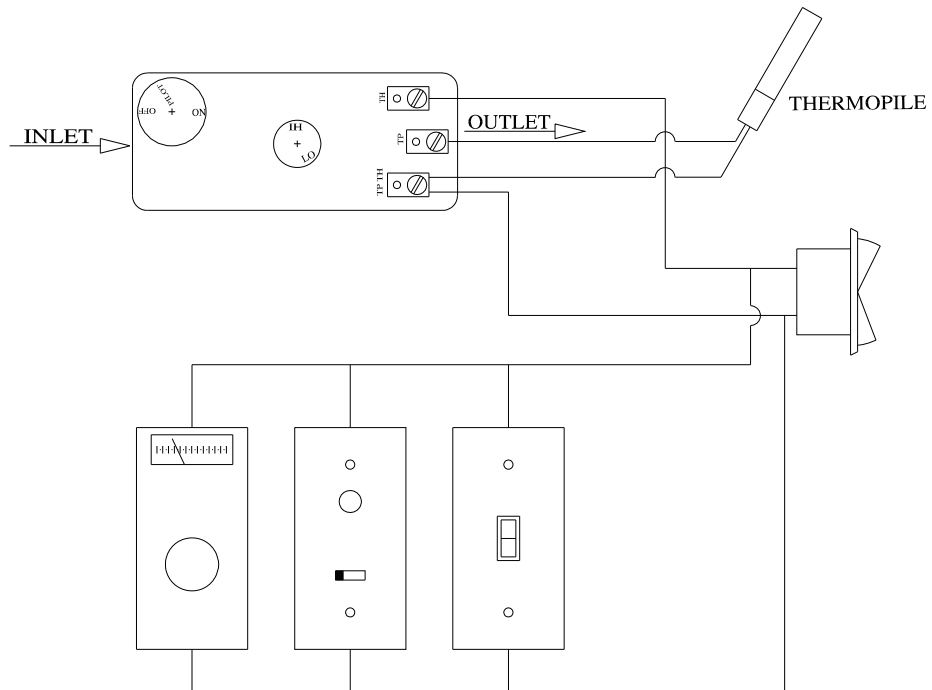
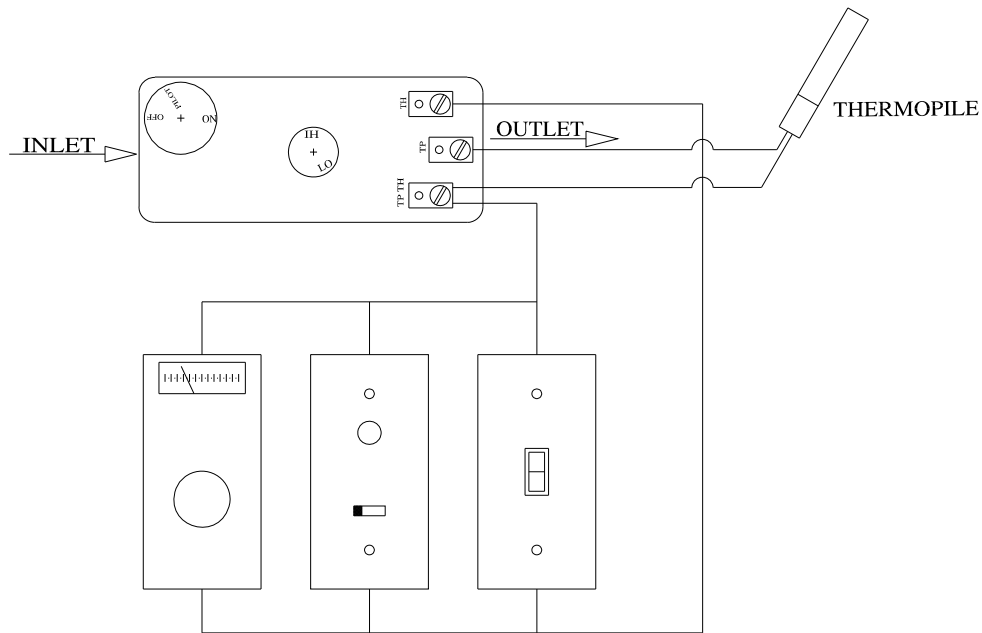

Figure 5
Figure 6
1. Mount the thermostat or wall switch in the desired location and run "two conductor thermostat wire" to the burner control switch (Figure 5). To bypass the burner control switch, run the wires directly to the gas valve (Figure 6).